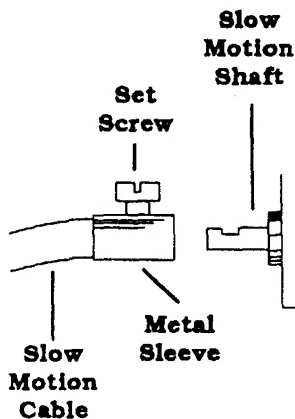

Figure 2-2
2. Slide the end of the metal sleeve over one of the two shafts protruding from the mount. Make sure that the set screw on the metal sleeve is over the flat part of the shaft (see figure 2-2).